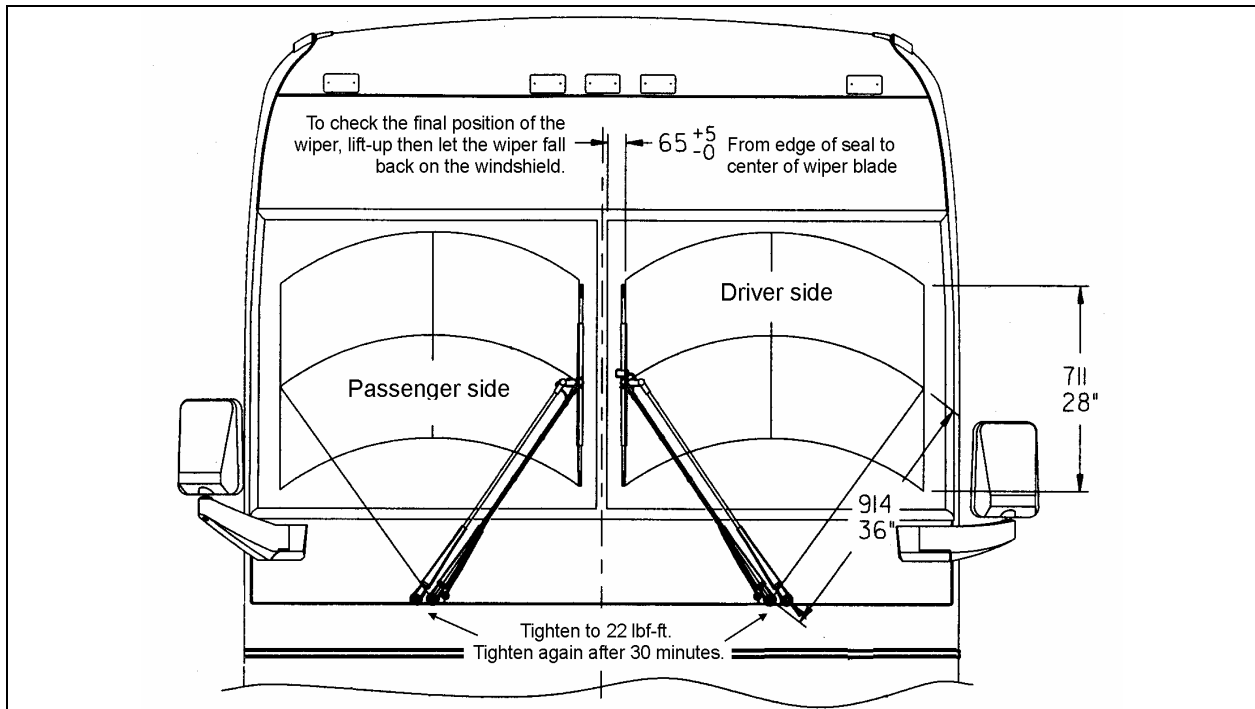

FIGURE 38: WIPER ARMS POSITIONING
1. Reinstall the wiper arms and position as shown in figure 38. Before positioning the wipers at their final position, tighten the nuts to 9 Ft-lbs (12 Nm) at first.